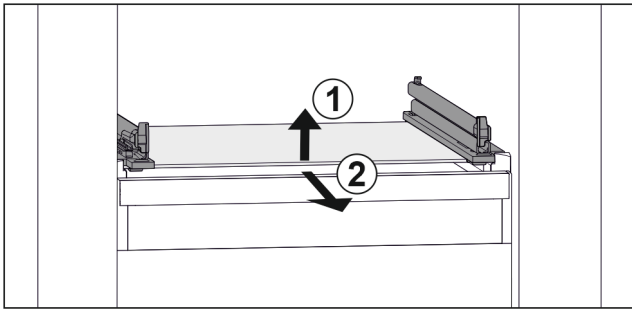

Fig. 176 Example illustration of glass shelf
- ▶ Lift glass shelf at the front. Fig. 176 (1)
- ▶ Take out glass shelf to the front. Fig. 176 (2)